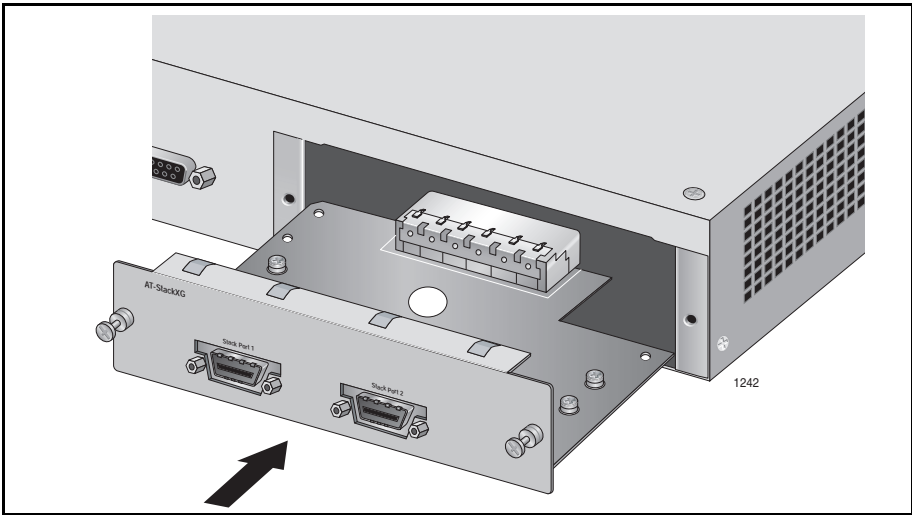

Figure 29. Installing the AT-StackXG Stacking Module
3. Align the edges of AT-StackXG module with the guides in the slot and carefully slide the module into the chassis until it is flush with the rear panel of the chassis, as shown in Figure 29. Light pressure may be needed to seat the module on the connector on the rear panel of the chassis.